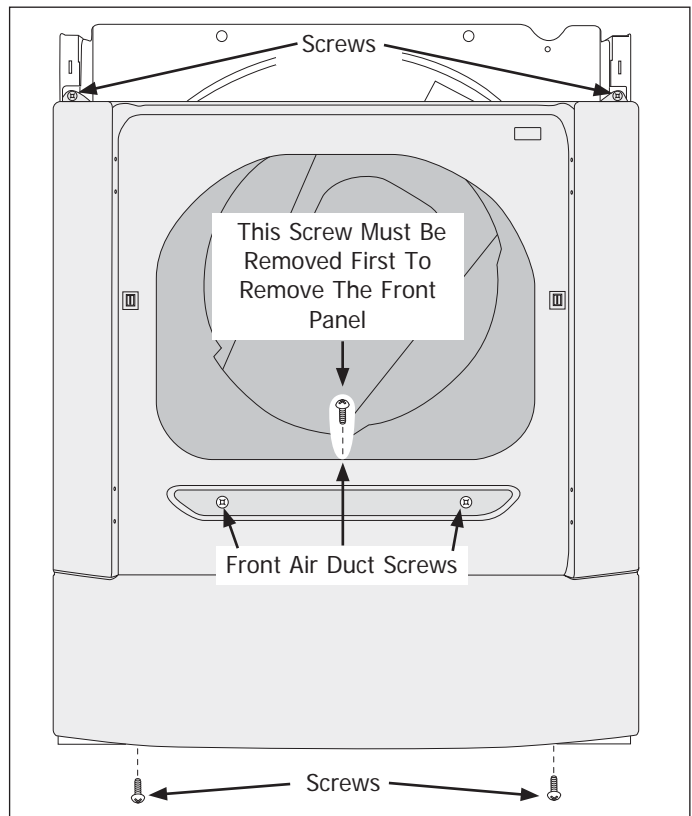

Figure 4-21. Gallery Series Shown
3. Using a #2 square bit screwdriver, extract the top screw from the front air duct that is visible once the air duct cover is removed. (See Figure 4-21)
4. Using a #2 square bit screwdriver, extract the two screws from the bottom of the front panel, then the two screws at the top of the front panel. (See Figure 4-21)
2. From the front of the front panel, use a #2 square bit screwdriver and extract the two screws securing the front air duct to the inside of the front panel. (See Figure 4-21)